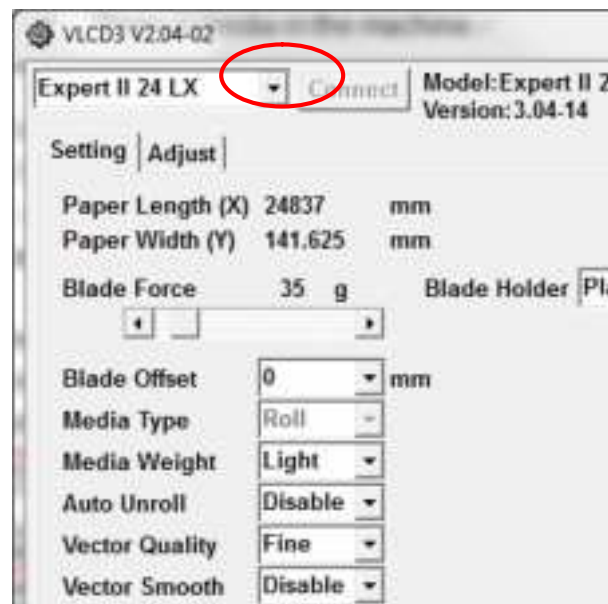

Figure 3-3
Step 4 Press the **Connect** button to connect your computer and the cutter. If the connection succeeds, the model info, firmware version, and adjustable parameter columns will be showing (Figure 3-3).